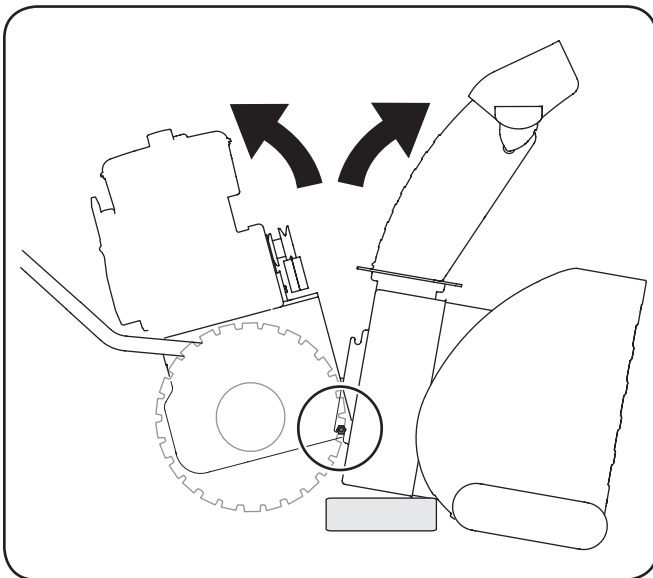

Figure 8-6
8. Place a block of wood underneath the auger housing as shown in Fig. 8-6 and separate auger housing from the transmission frame by tilting the housing forward and pulling up the handles.